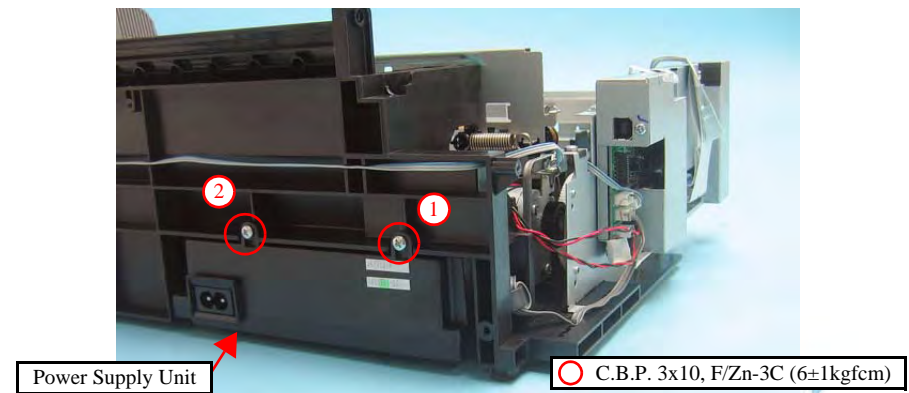

Figure 4-27. Removing the Power Supply Unit (2)
- Tighten the screws in the order given in Figure 4-27.